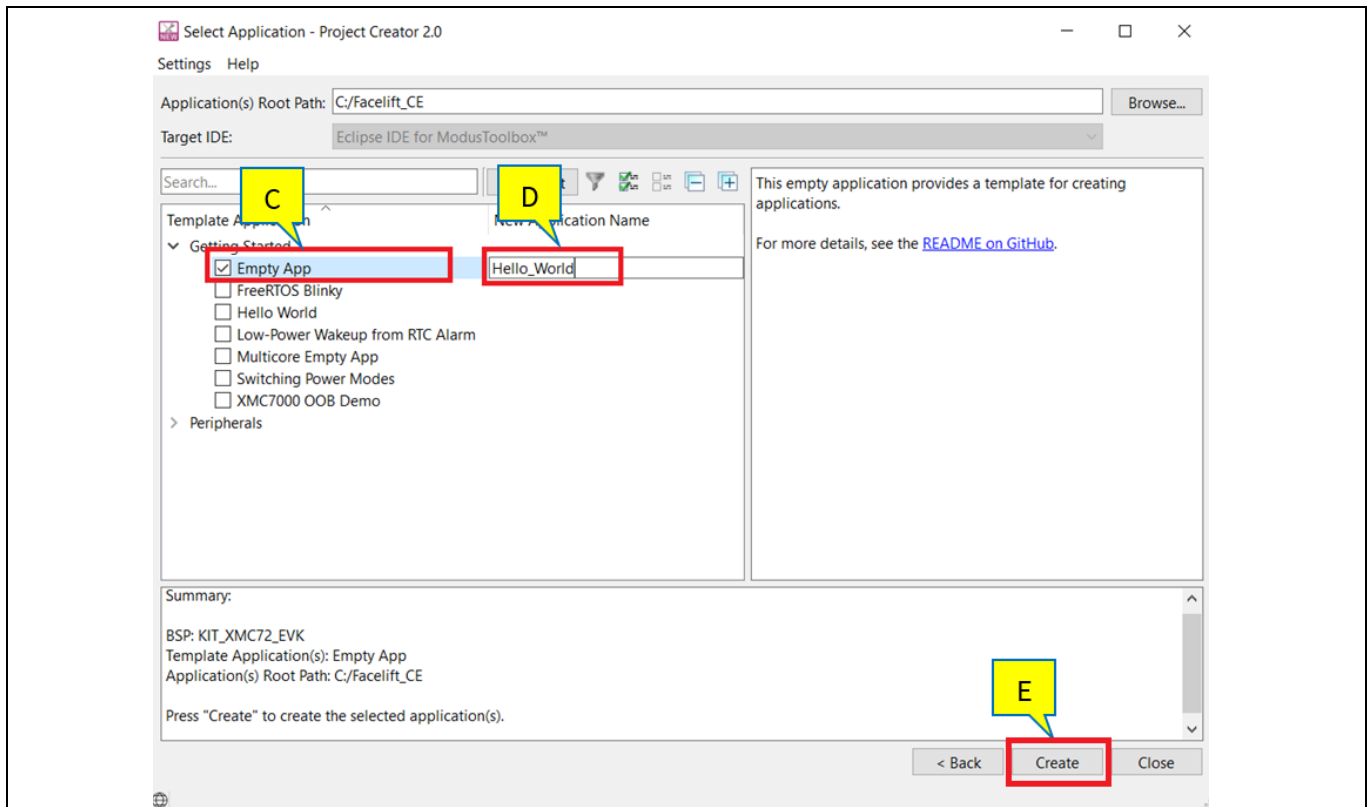

Figure 9 Choose starter application
- c) In the **Starter Application** dialog, select **Empty App** starter application, as Figure 9 shows.
- e) Click **Create** to create the application, as **Figure 9** shows, wait for the Project Creator to automatically close once the project is successfully created.